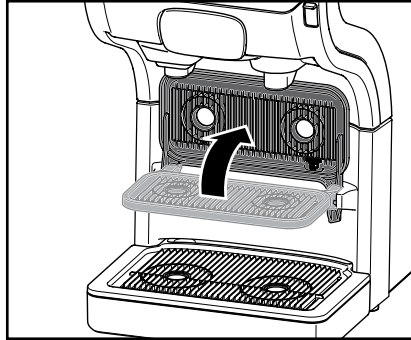

Fig. 11
- Tilt the cup tray upwards to provide enough room for a pot (fig. 11).